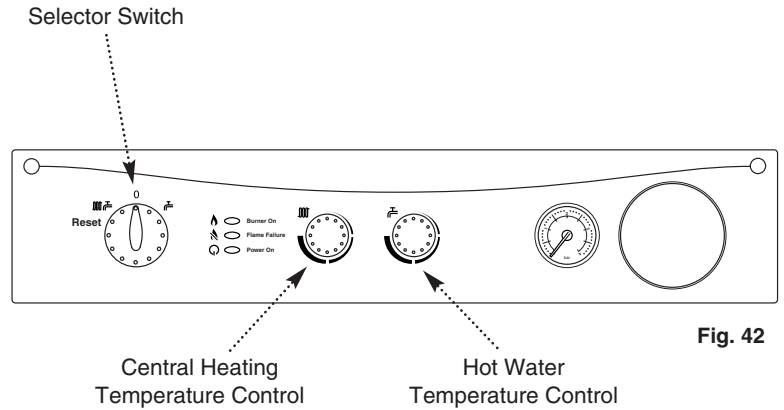

Fig. 42
2. Set the temperature controls to maximum and the selector switch to the Off position (Fig. 42).
6. Turn the selector switch to the Central Heating and Domestic Hot Water position (). The power On neon () will illuminate (Fig. 42).